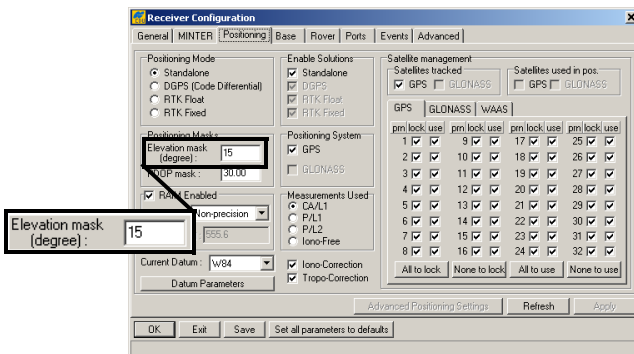

Figure 3-24. Configure Receiver Positioning – Elevation Mask
- Click the *Positioning* tab, and set the *Elevation mask* to 15 (Figure 3-24), then click **Apply**.